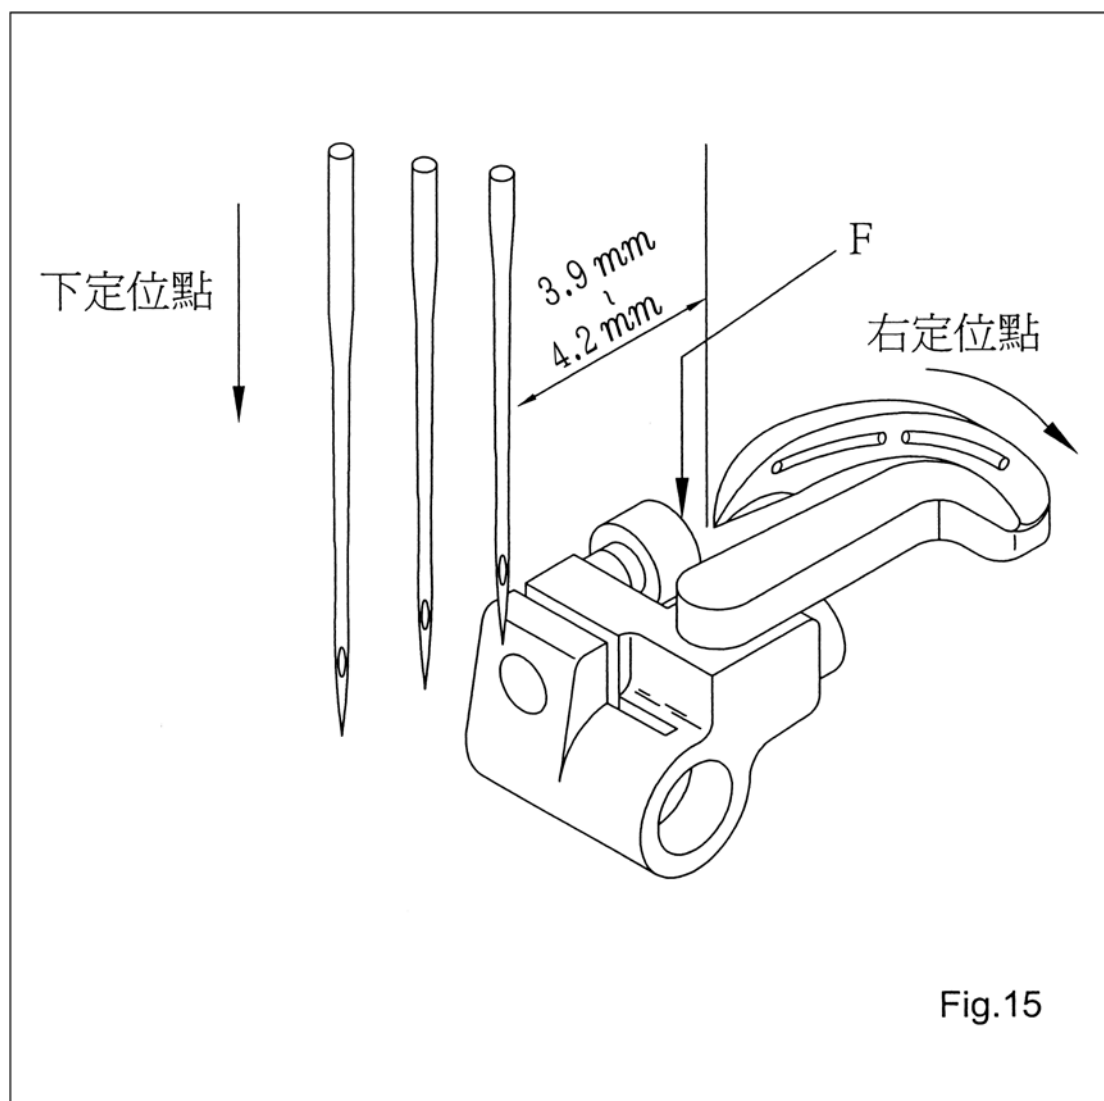

Fig.15
2. Loosen the screw (F) on the Loper Holder to adjust the correctly distance of Loper and right needle. (Fig. 15)